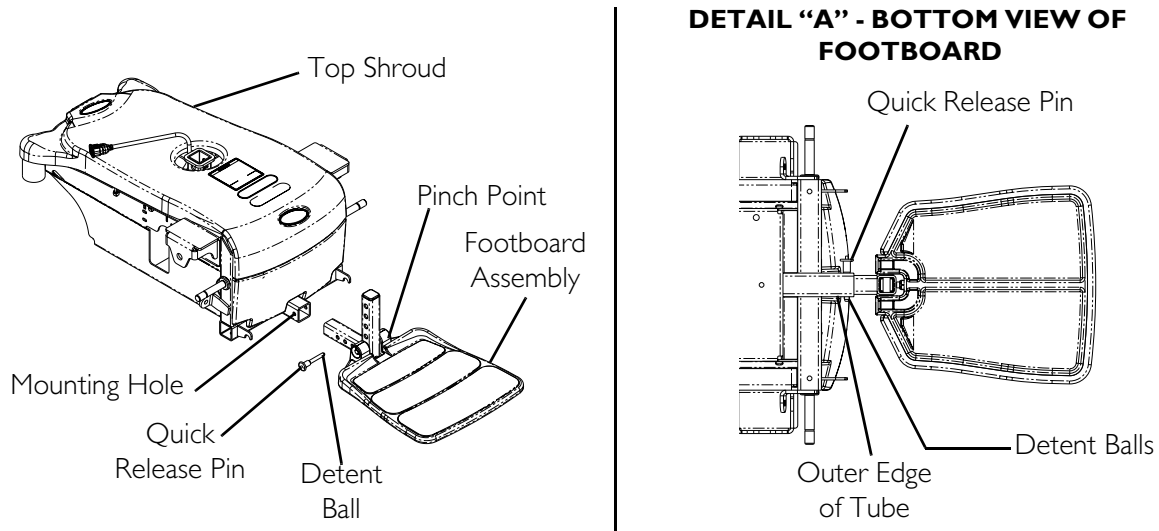

FIGURE 8.1 Removing/Installing the Footboard Assembly
NOTE: For this procedure, refer to FIGURE 8.1.
2. Install the quick release pin by depressing the button while sliding the pin in. Ensure that the detent balls of the quick release pin are fully released beyond the outer edge of the tube (Detail "A" of FIGURE 8.1).